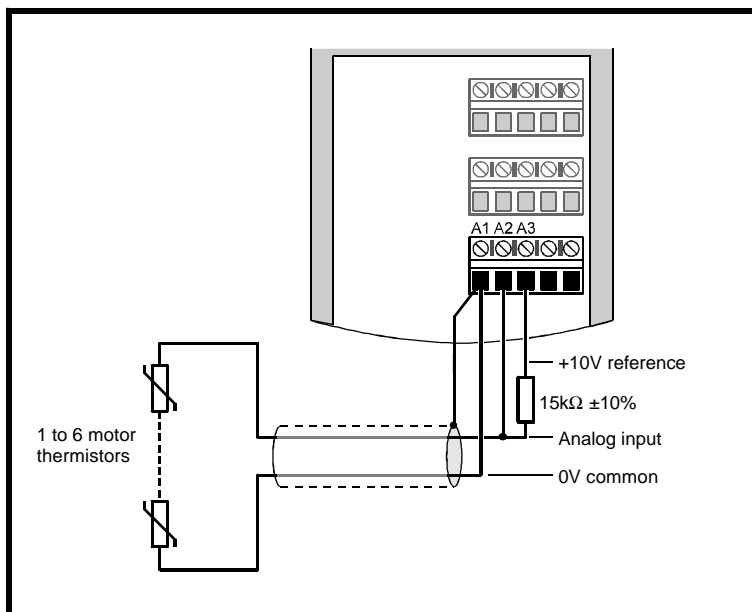

Fig. 5.19 Optional motor thermistor input arrangement for Terminal A2
- When a motor thermistor is used, this constraint does not apply to the cable connecting the thermistor to the drive. The motor thermistor cable must be shielded and grounded at the drive only (as shown in Fig. 5.19 later).